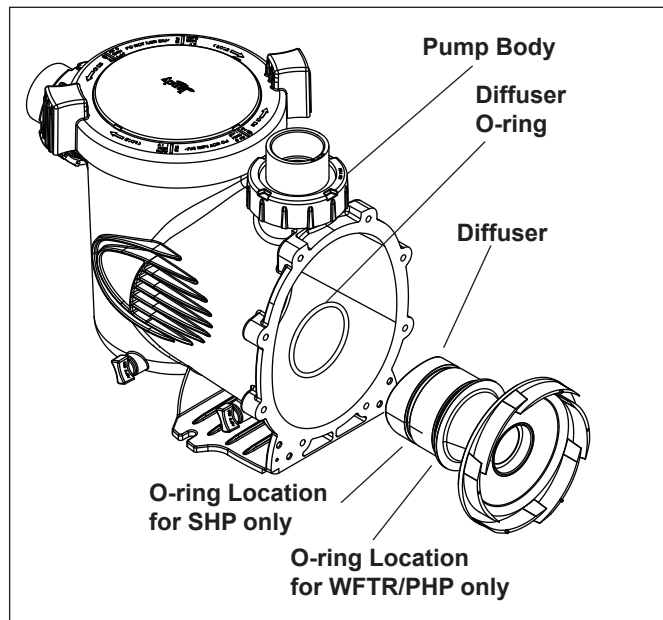

Figure 5. Location of Diffuser O-ring
7. Make sure the diffuser o-ring, o-ring groove, and o-ring seal area are clean and free of debris, which could cause a leak. If you removed the diffuser o-ring, make sure you install it into the proper groove. (See Figure 5.) If grease is used to retain the o-ring, it **must** be silicone based. **Do not** use petroleum-based grease. It **will** destroy the o-ring.
8. Slide the diffuser into the mating hole in the pump body. While supporting the motor, start two (2) screws on opposite sides. This will hold the motor in position while you start the other six (6) screws.
9. Tighten the screws lightly in a crossing "X" pattern using a 9/16" wrench starting with the inner (middle) four (4), then the outer (top and bottom) four (4) to draw the backplate to the body in a even manner. Once all the screws are snug, torque in the same order to 18 foot-pounds.